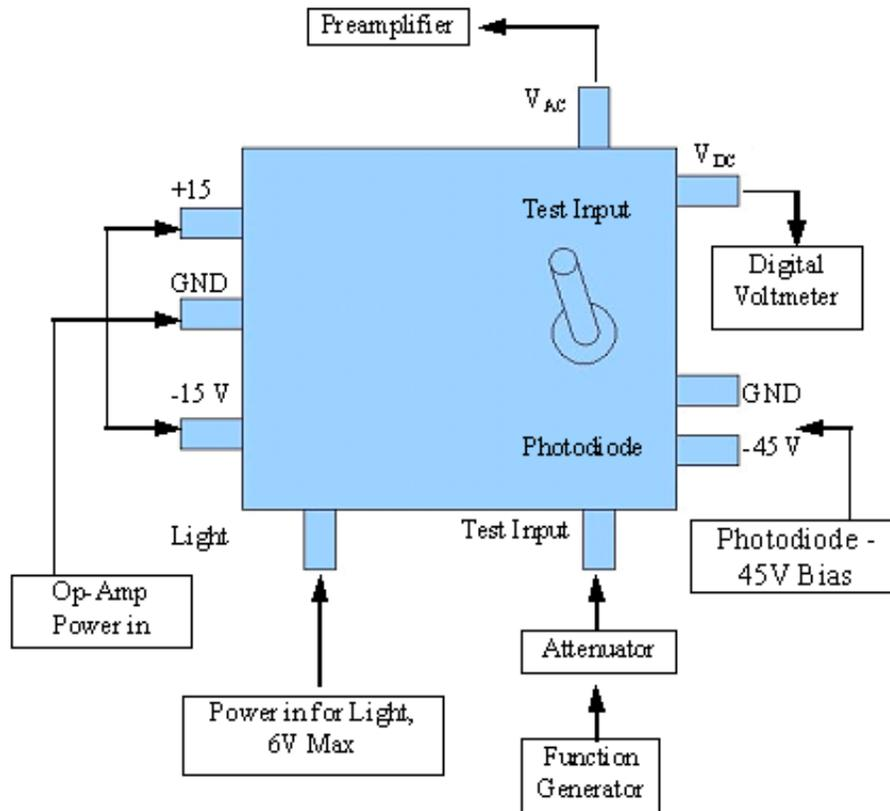

Figure 7. Shot Box Connection Diagram
- 1) Set up the circuit shown in figure 7. Set the preamplifier as follows: coupling to AC, gain to 1×10 , low-pass filter to 10 kHz and high-pass filters to 1 kHz. Make sure to turn on the power supply to the op-amp.